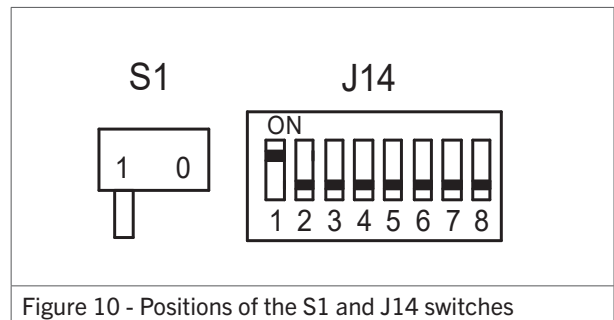

Figure 10 - Positions of the S1 and J14 switches
- a. Set the S1 and J14 switches on the control unit as follows (figure 10/11):